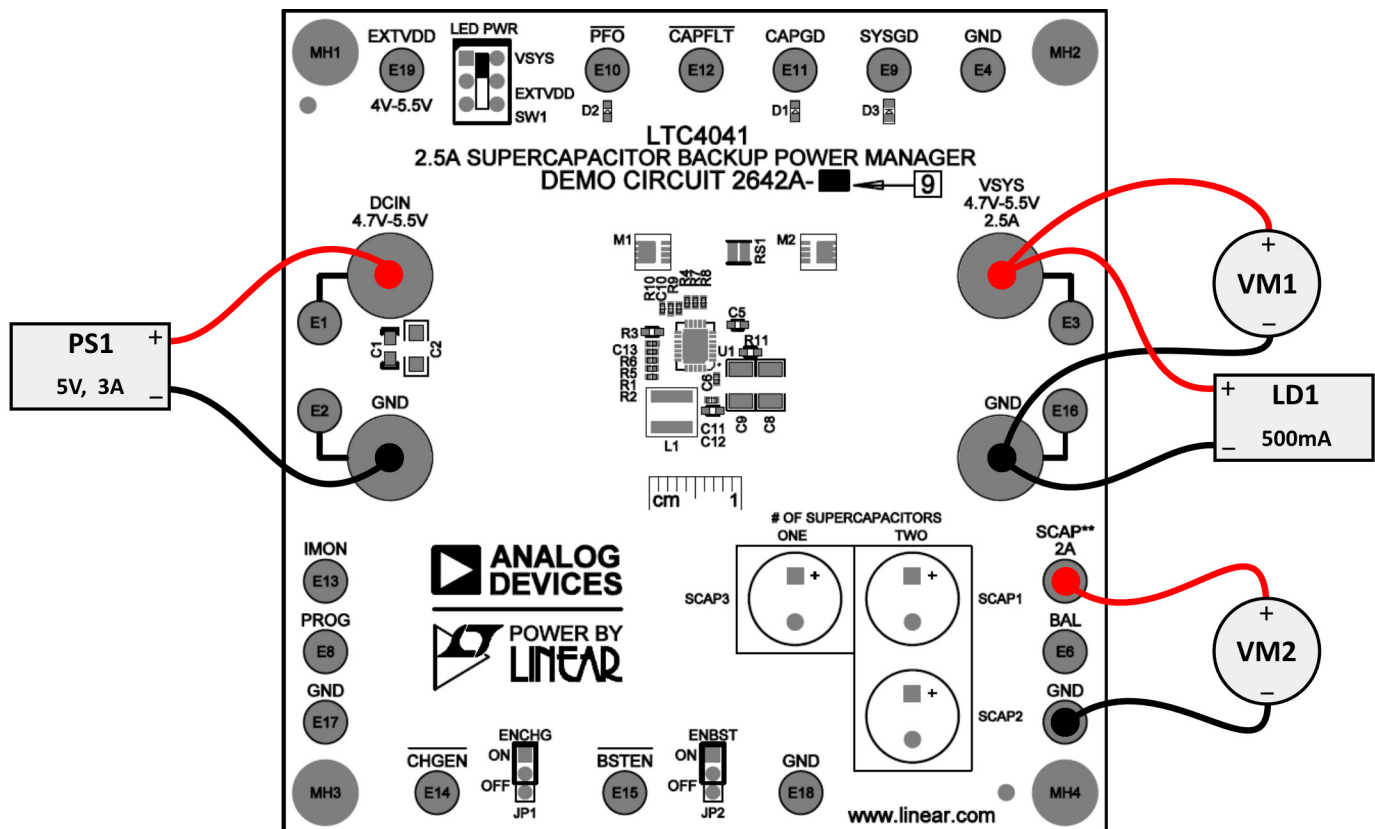

Figure 1. Quick Start Procedure Setup for DC2642A
Refer to Figure 1 for the proper measurement equipment setup and jumper settings. Please follow the procedure below to familiarize yourself with the DC2642A.
1. Connect test equipment as shown in Figure 1. Ensure JP1 and JP2 are both in the ON position.